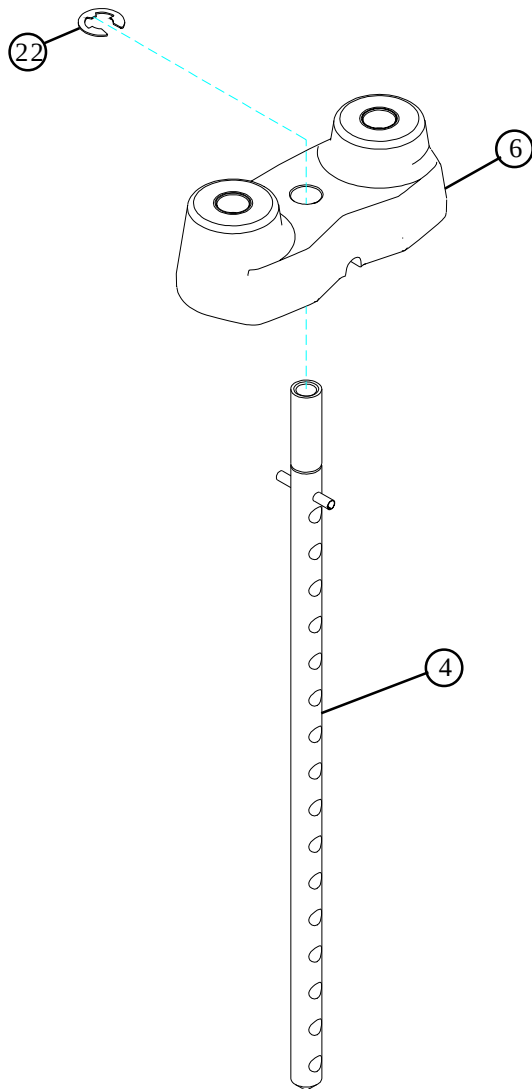

FIGURE 5
- Slide the WEIGHT PLATE SHAFT (4) thru the hole in the HEAD PLATE (6), and lock in place using one E-RING (22) as shown in FIGURE 5.
- Remove the SHORT LEG PRESS CABLE from the PULLEY PLATES and the PULLEY BRACKET as shown in FIGURE 5.